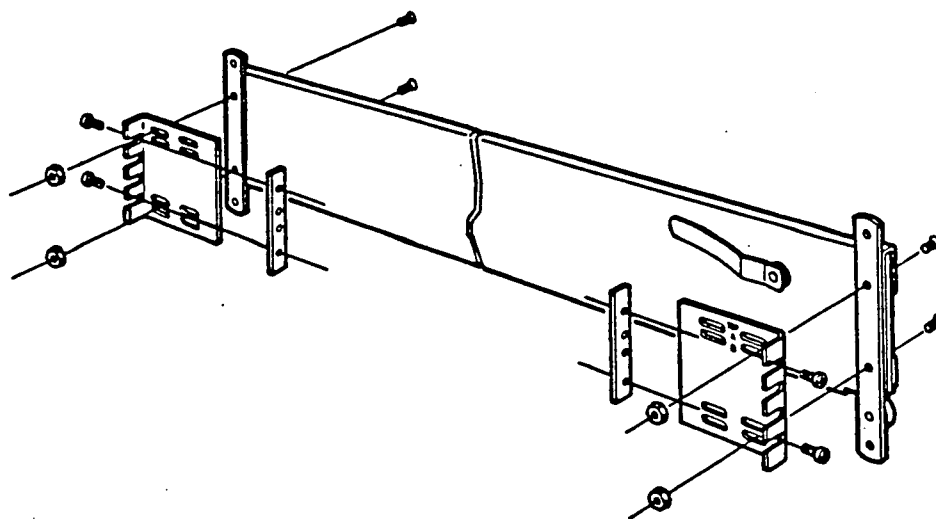

FIGURE 4. INSTALLING SLIDE ADAPTER
9. Using hole pattern "B" (see Figure 4), attach one adapter bracket to the front of each outer slide mount, using two 10-32x1/2 flat-head screws and nuts per bracket.